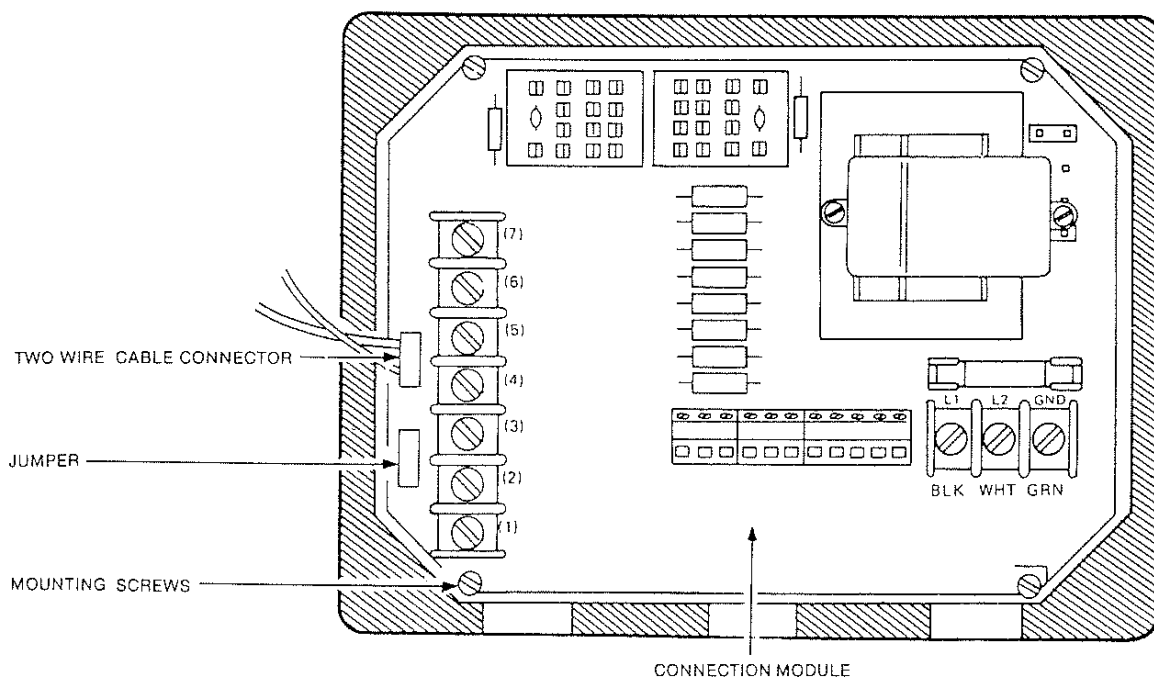

Figure 22. Connection Module
14. Disconnect two-wire cable connector from connection module (see Figure 22).
21. See MI 611-158 (pH) or MI 611-160 (CC) to reconfigure and recalibrate Monitor.